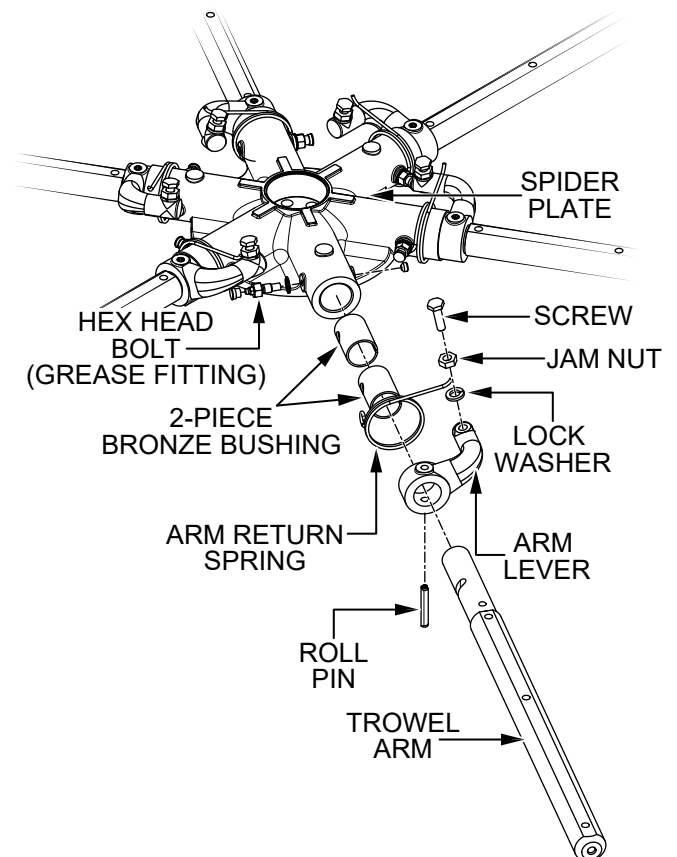

Figure 81. Trowel Arm Removal
2. Each trowel arm is held in place at the spider plate by a hex head bolt (Zerk grease fitting). Remove the hex head bolt (Figure 81) from the spider plate.
3. Remove the trowel arm (Figure 81) from the spider plate.